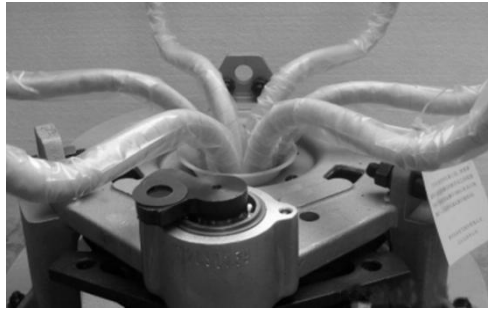

Figure 17
- (2) Remove the red paint mark locating member of the lock coupling on the tap selector. Do not rotate the coupler and the dial member (Fig 17).
- (2) Remove the red paint mark on the tap selector on the tap selector. Do not turn the coupler and the dial (Fig. 17).
- (3) Remove the bolts on the tap selector holder (6 M12 hex socket bolts, 8th wrench) and prepare the connection between the diverter switch and the tap selector.
- (4) Lift the diverter switch oil chamber with the lifting plate (see Appendix 9), wipe the contact surface, align the two coupling parts, and slowly place them on the tap selector. Be careful not to touch the tap selector connector wire. Insulation. Fasten with 6 M12 bolts removed from the front.